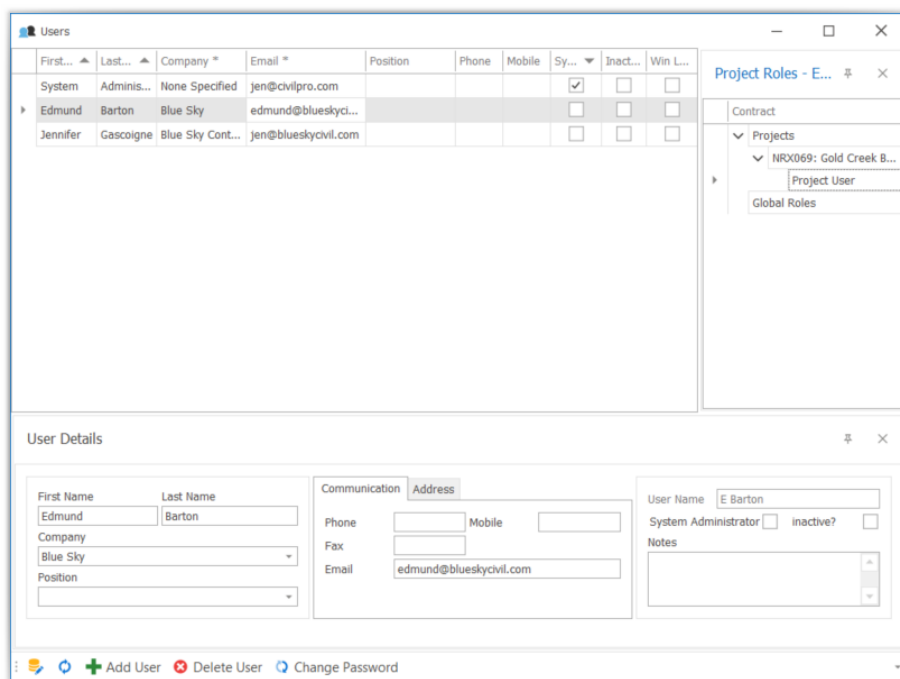

Figure 46 New project user role added
2. Select the *Project User* role and either drag on to the project, or double click. You will see that this role will now appear under the project heading in the related items panel as in Figure 46.